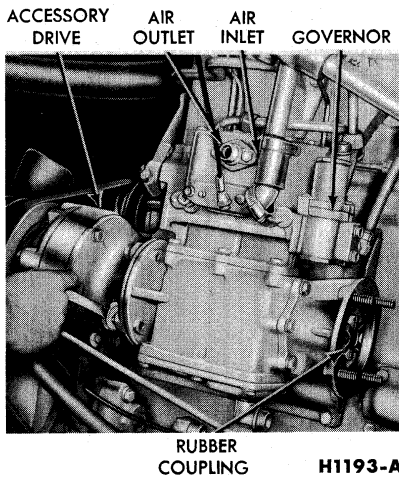
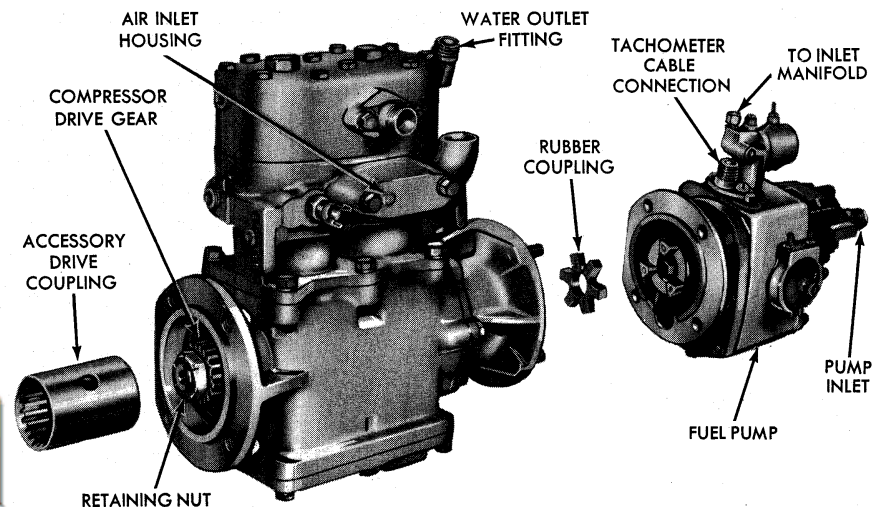

FIG. 8—Removing or Installing Air Compressor—Cummins
FIG. 10—Air Compressor and Fuel Pump Removed
3. Remove the rubber coupling from the drive unit (Fig. 8).
7. Disconnect the water inlet and outlet lines and the air inlet and outlet lines from the compressor (Figs. 8 and 9).
8. Remove the two nuts and lock-washers that hold the compressor to the support bracket, and the four capscrews and lock washers that hold the compressor to the accessory drive (Fig. 8).
9. Remove the compressor and the splined accessory drive coupling (Fig. 10). Discard the old gasket.
1. Assemble the splined accessory drive coupling to the compressor drive gear (Fig. 10), and mount the compressor to the accessory drive, using a new gasket. Install and tighten the four capscrews and lock washers (Fig. 8).
3. Connect the water inlet and outlet lines (Fig. 9), and the air inlet and outlet lines to the compressor (Figs. 8 and 9).
6. Mount the governor to the compressor, and install the two governor-to-compressor retaining screws (Fig. 8).
7. Install the fuel pump to the compressor rear flange with a new gasket and rubber coupling in position (Figs. 8 and 10), then connect the throttle linkage and lines as described in Group 10.
2. Remove the compressor drive gear retaining nut, then remove the drive gear from the compressor crankshaft using a universal puller (Fig. 10).
4. Transfer the water inlet and outlet fittings, the air inlet fitting, and the oil return fitting from the old to the new compressor (Figs. 8, 9 and 10).
5. Transfer the air inlet housing and screen from the old to the new compressor (Fig. 10).
8. Install the splined compressor drive gear to the crankshaft of the new compressor, and secure with a flat washer, lock washer and nut (Fig. 10).